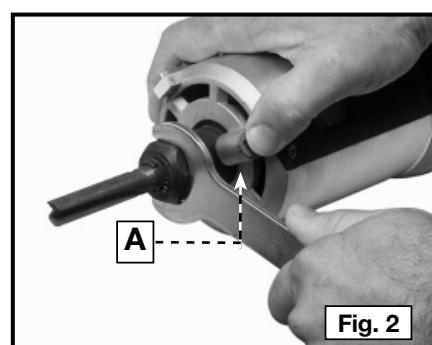

Fig. 2
4. Press the spindle lock button (A) Fig. 2.
5. Press the spindle lock button (A) Fig. 2.